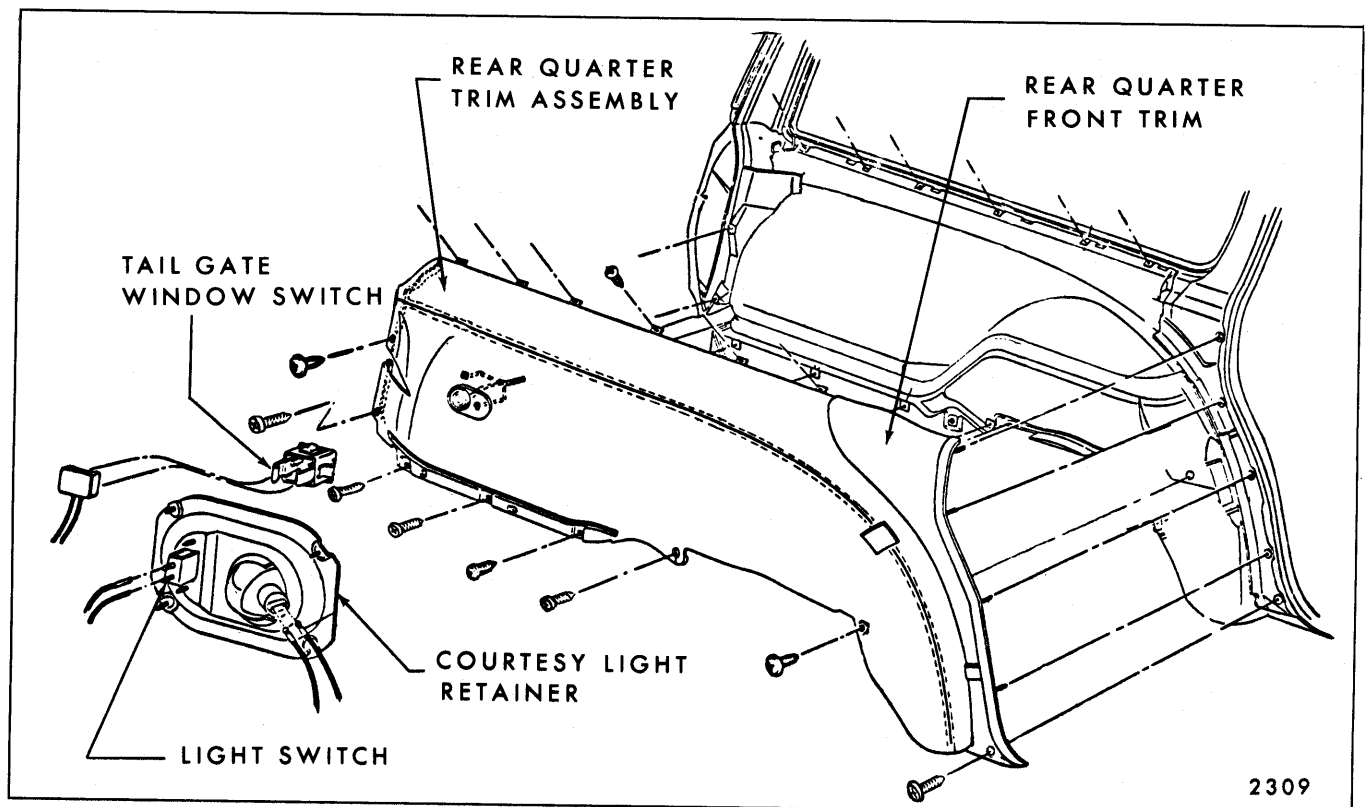

Fig. 14-29—Rear Quarter Trim Panel (Left Side) - "B" Station Wagons
3. Remove all screws securing trim panel to rear quarter inner panel (Fig. 14-29).
4. With a suitable flat-bladed tool, carefully disengage trim retainers from rear quarter inner panel along leading edge of rear body lock pillar (on front edge of rear quarter front trim assembly) (Fig. 14-29).
5. Lift assembly upward slightly to disengage from rear quarter inner panel and remove assembly from body. On styles equipped with courtesy lamp disconnect feed wire from switch and lamp (Fig. 14-29).